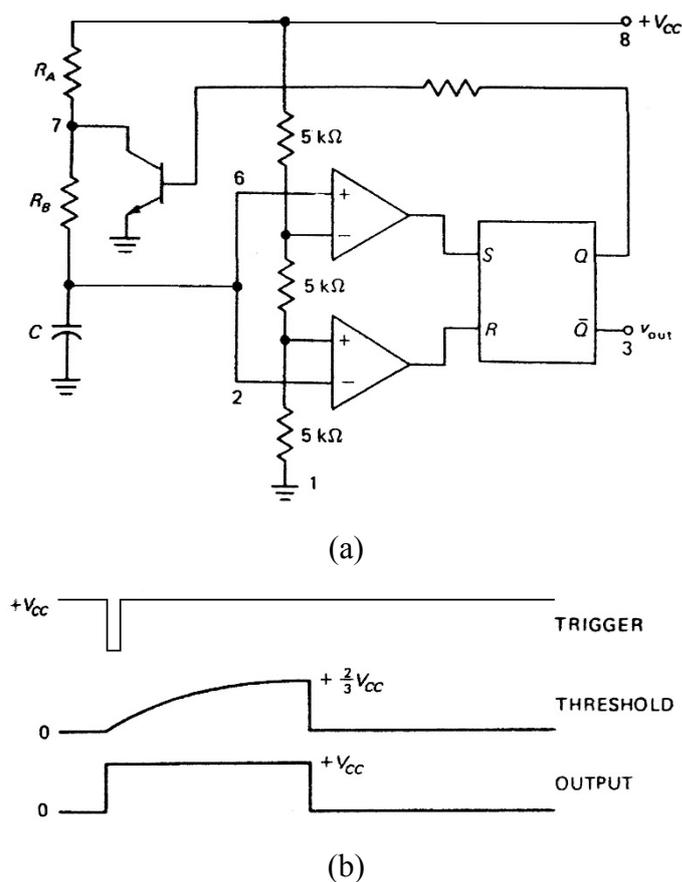

Figure 5.3. (a) Monostable Operation; (b) Waveforms
Figure 5.3(a) shows the 555 timer connected for *monostable* (one-shot) operation. It produces a single fixed pulse out each time a trigger pulse is applied to pin 2 (figure 5.3(b)). When the trigger input is slightly less than $+V_{CC}/3$, the lower op-amp has a high output and resets the flip-flop. This cuts off the transistor, allowing the capacitor to charge.
3. To set the RS flip-flop of figure 5.3, the threshold voltage must be slightly greater than the _____ voltage.